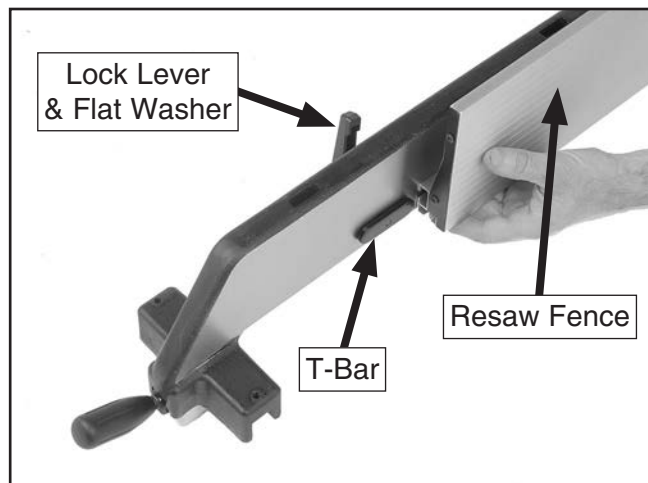

Figure 11. Resaw fence components.
- Slide the 8mm flat washer onto the resaw fence lock lever, then insert the assembly through the standard fence (see **Figure 11**).
- Thread the T-bar onto the lock lever a couple of turns, align the resaw fence slot and the T-bar, then slide the resaw fence fully onto the standard fence, as shown in **Figure 11**.